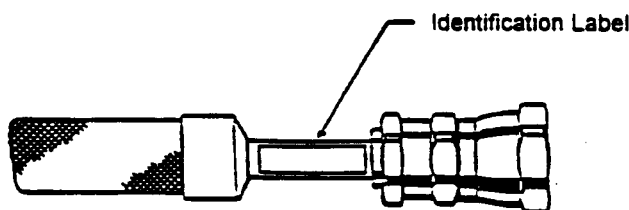

Figure 3 Attach Identification Label
1. Identification labels are furnished with the gas lines. Before installing the gas lines, identify each with an appropriate label, SUPPLY (high pressure, color-coded red) or RETURN (low pressure, color-coded green) by applying a label adjacent to each Aeroquip coupling. See Figure 3.